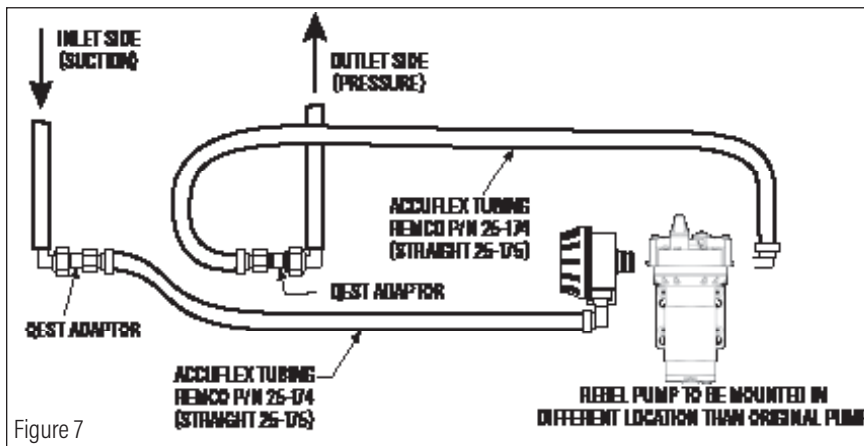

Figure 7
- b. [If the Rebel pump is to be remote mounted, as in Figure 7, page 5]. Insert the O-ringed elbow fitting of the Accuflex hose adapter (sold separately) into the inlet port of the Rebel pump. Lock fitting in place by pushing down retainer slide.